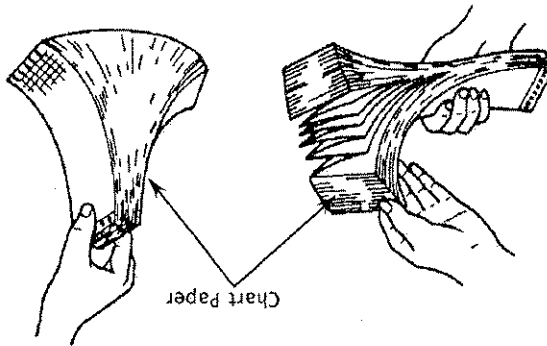

Figure 6.1.1
- 1) To ensure a proper chart-feed, raffle and fan the chart on both ends (see Figure 6.1.1).